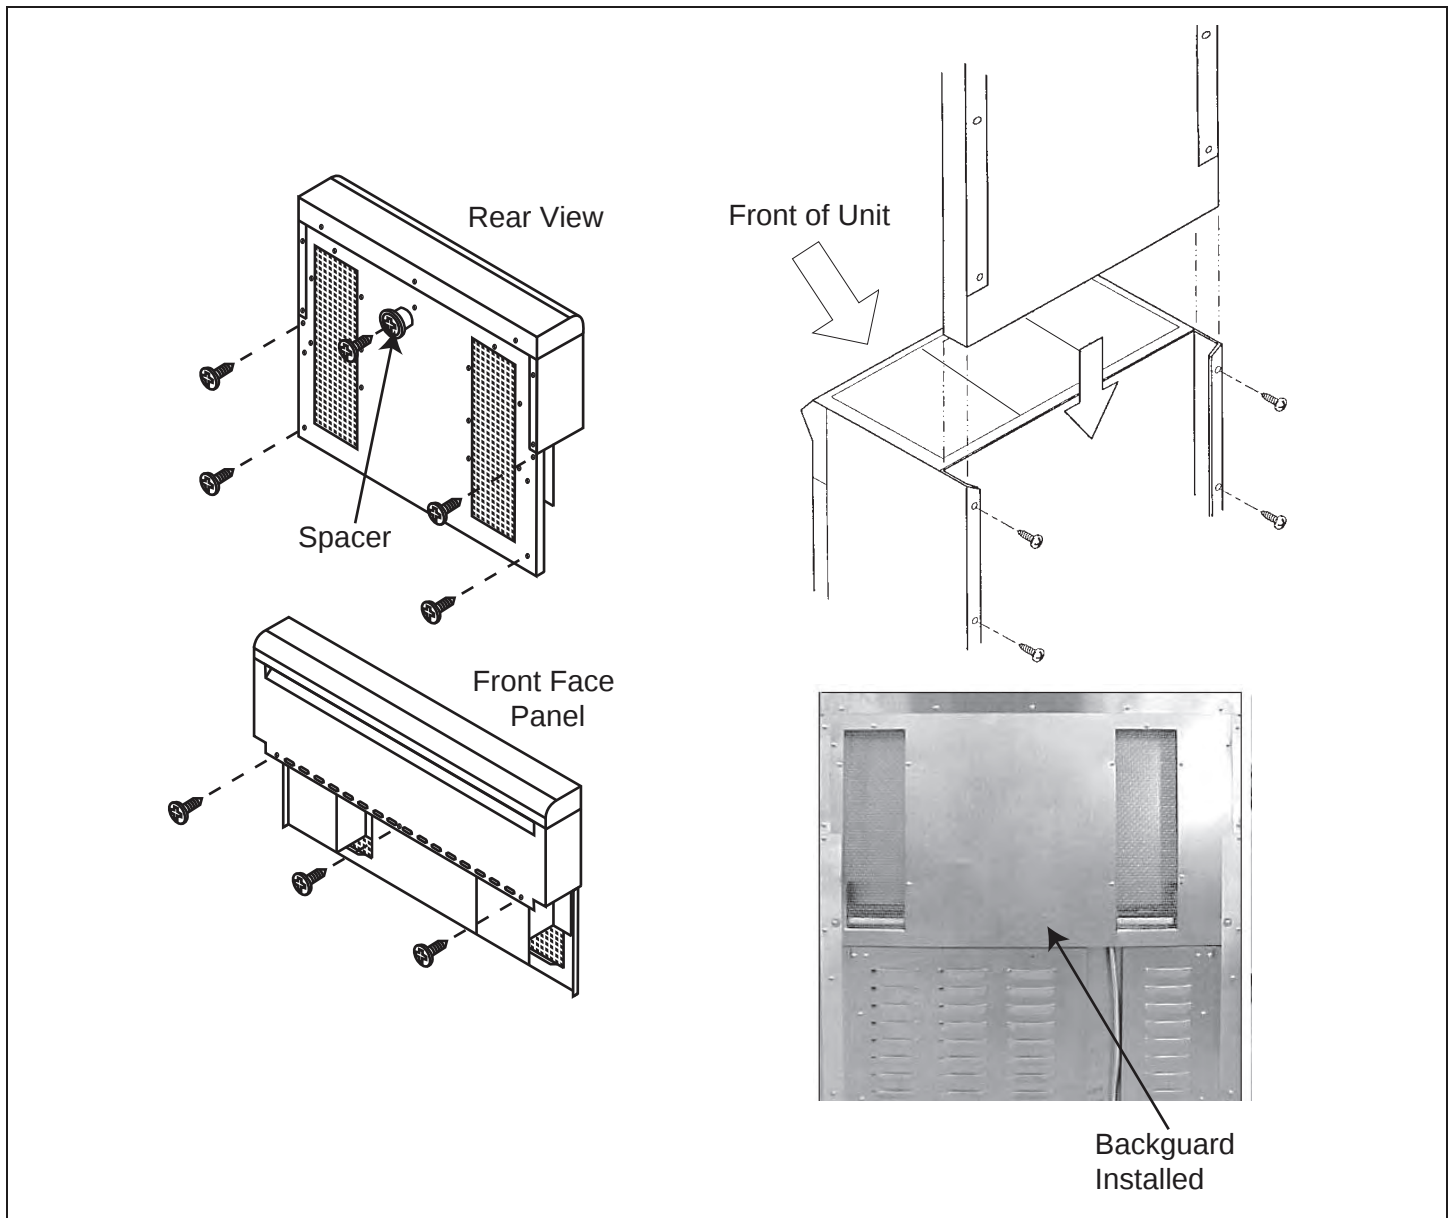

Figure 9: Backguard Installation
Align the back panel of accessory with the flange on the range side panel right and left rear corners. The backguard is inserted inside the guide channels on the back of the range. (See Figure 9.)
(1) screw and spacer to center hole location. (See Figure 9.)